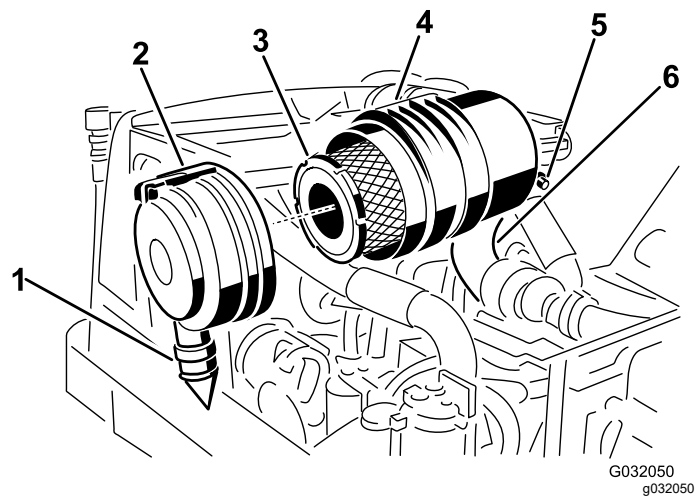

Figure 46
- Remove the primary filter (Figure 46).
- Replace the primary filter (Figure 46).
- Install the cover, orienting the rubber outlet valve in a downward position between the 5 o'clock to 7 o'clock positions when viewed from the end, and secure the latch (Figure 46).